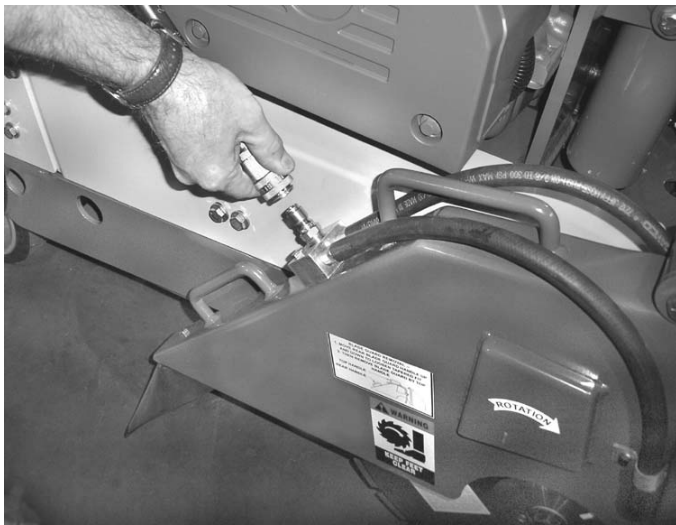

Figure 15. Blade Guard Water Delivery Connector
1. Remove the water delivery hose from the Blade Guard. (See Figure 15.)
2. Connect the water delivery hose to the Blade Guard. (Figure 15.) Ensure that the water hoses are pointed toward the water distribution grooves in the Blade Flanges. (Figure 18.)
2. Verify that the water hose on the saw is connected to the Blade Guard, (Figure 15), and that the water hoses or tubes are pointed into both Blade Flanges.